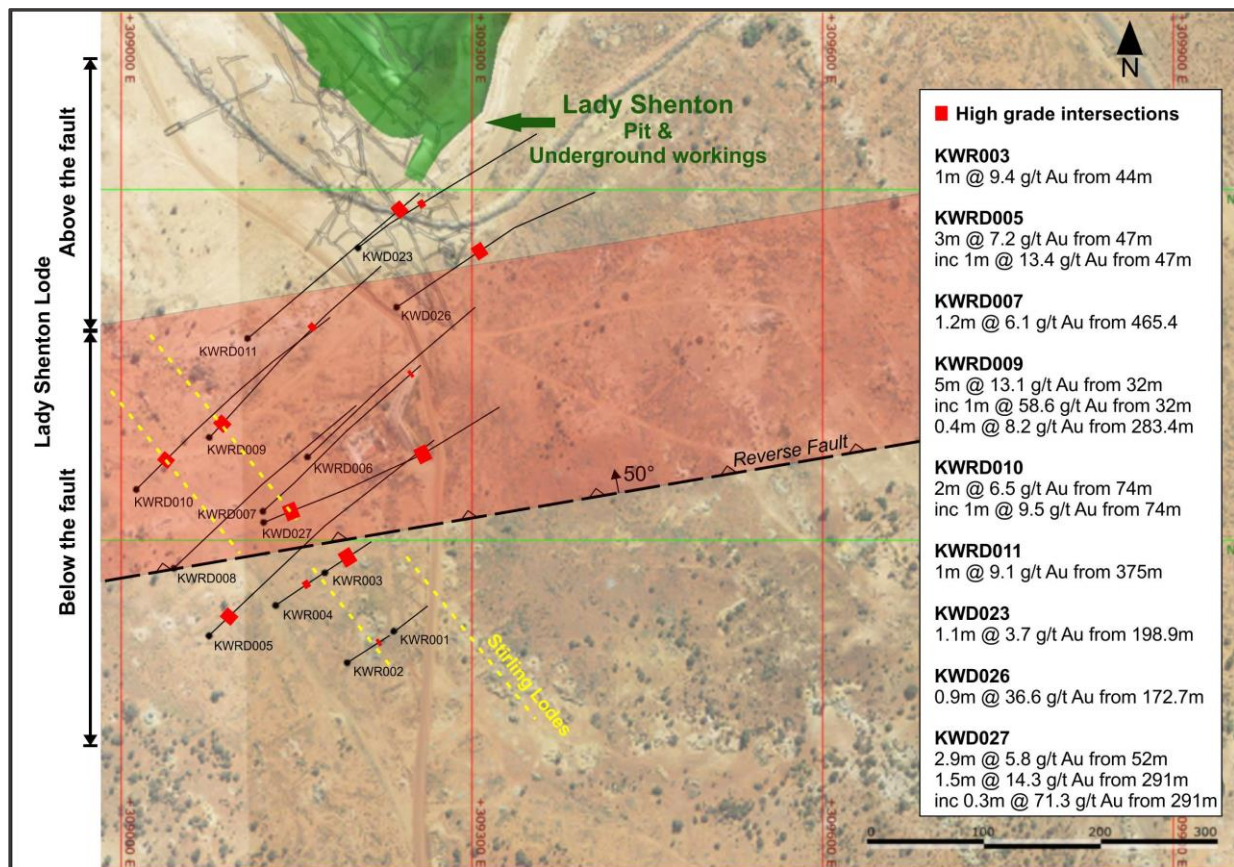
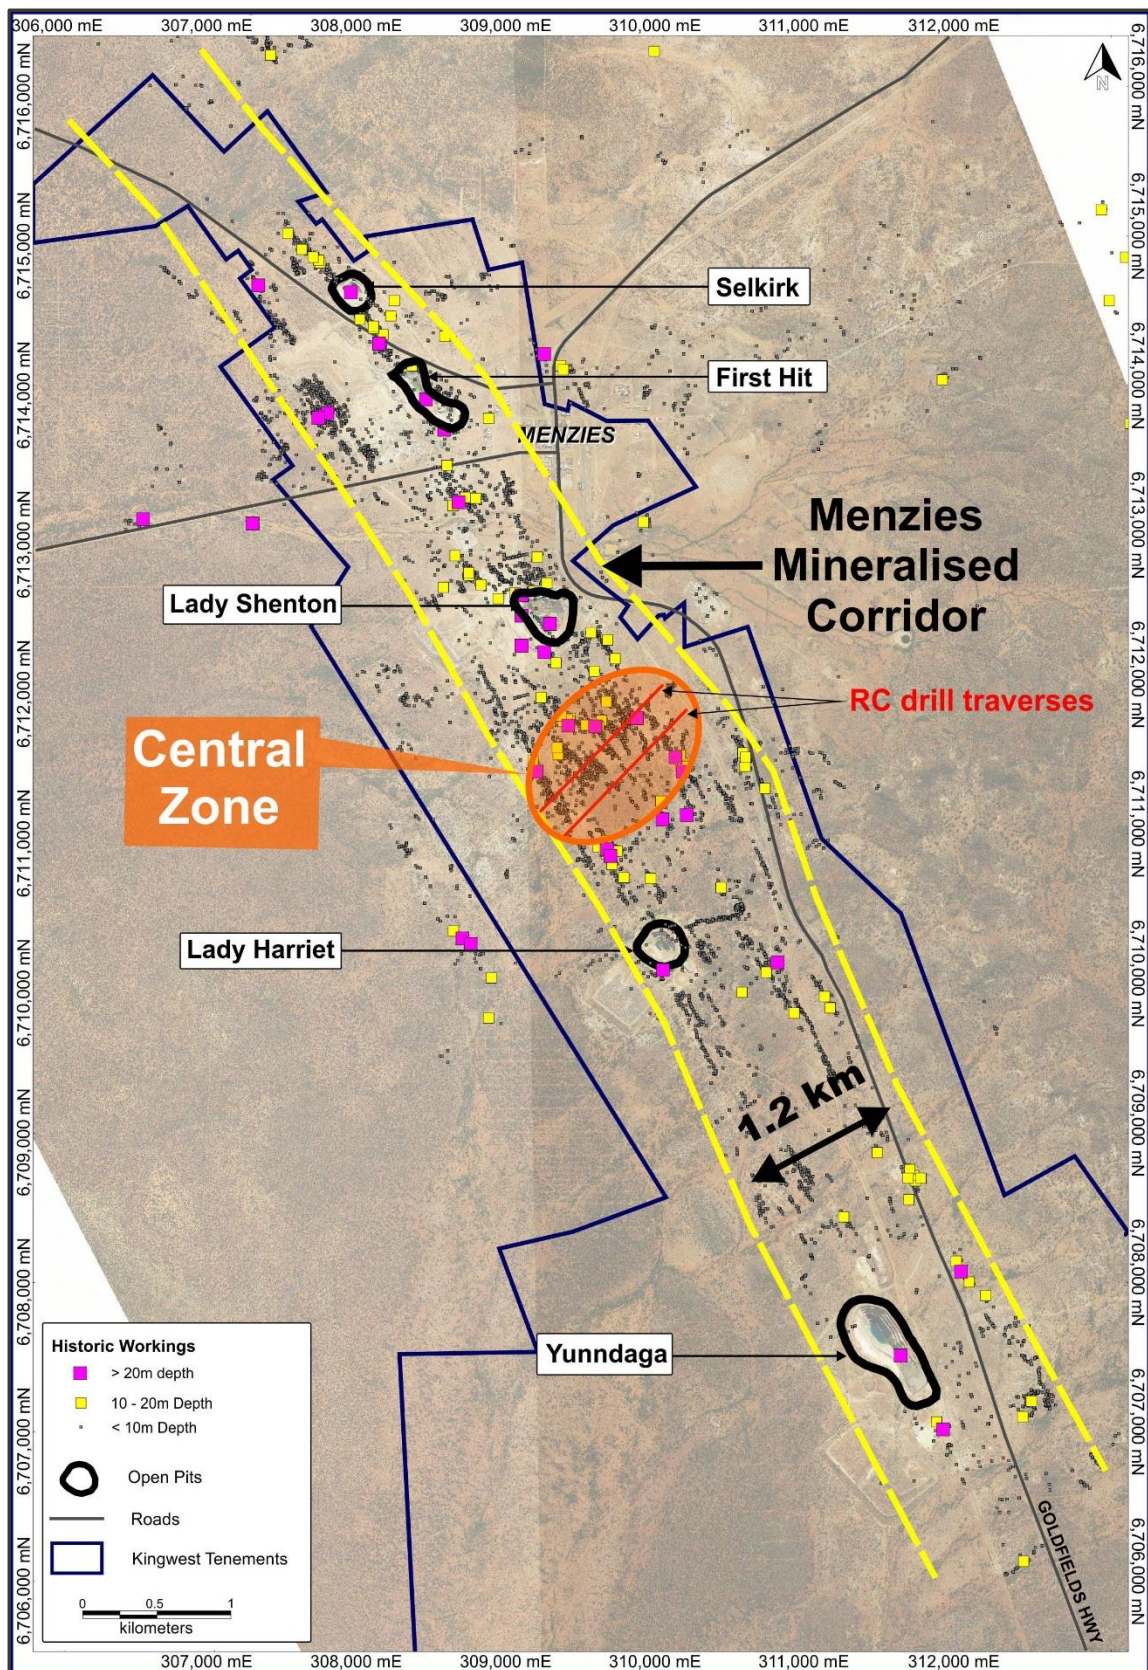

Figure 3: Drill hole traces at the Lady Shenton System (including the Stirling Lodes) and the fault position projected to surface
Figure 4: Planned Central Zone RC traverse on historic workings background
With the continued success of delineating gold mineralisation and a better understanding of the controls at MGP a second drill rig (RC) has been mobilised and has commenced drilling between Lady Shenton and Yunndaga and the newly discovered, near surface ‘Stirling Lode’ at Lady Shenton (Figure 3). This “Central Zone” (Figure 4) was identified following a detailed interpretation of
The best intersections were **0.94m @ 36.60g/t Au** from 172.66m in **KWD026** and **1.00m @ 9.11g/t Au** from 375.00m in **KWRD011** (see Figure 3).
A 4,000 metre RC program has commenced within the Central Zone. The program is designed to test structural targets that are coincidental with numerous lines of historic workings and will comprise two lines of drill holes approximately 1,000 metres long (see Figure 4).